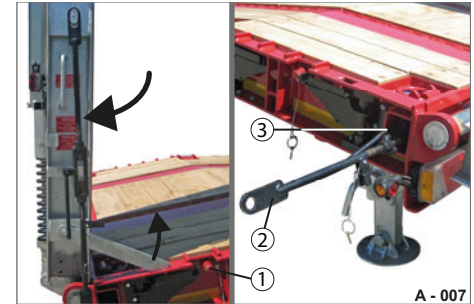

Fig. 6 Removing/stowing turnbuckle
- Remove the turnbuckle (Fig. 6/2) from the lower pin (Fig. 6/1).
- Unhinge the turnbuckle from the upper pin (Fig. 6/2).
- Push the turnbuckle into the storage compartment (Fig. 6/3) in the chassis.